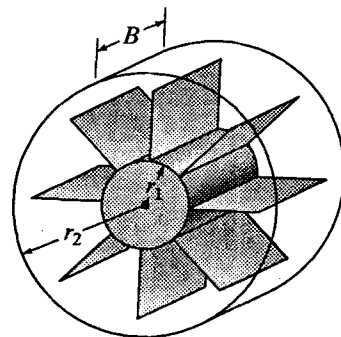

Figure P6.44
- 6.44 A paddle wheel with vanes that are all straight and radial is to be used as a crude centrifugal pump for water (Fig. P6.44):  $r_1 = 3$  in,  $r_2 = 9$  in, and the dimension  $B$  perpendicular to the plane of the figure is 0.2 ft. If the speed is 1200 rpm and the flow is 3380 gpm, (a) at the centerline elevation find the difference in pressure (psi) between the inner and outer circumferences, neglecting friction losses, (b) find which of these two points has the higher pressure, (c) compute the torque required to drive the pump, (d) calculate the horsepower requirement, and (e) verify that the horsepower requirement is equal to the difference between the horsepower of the outflow minus the horsepower of the inflow.